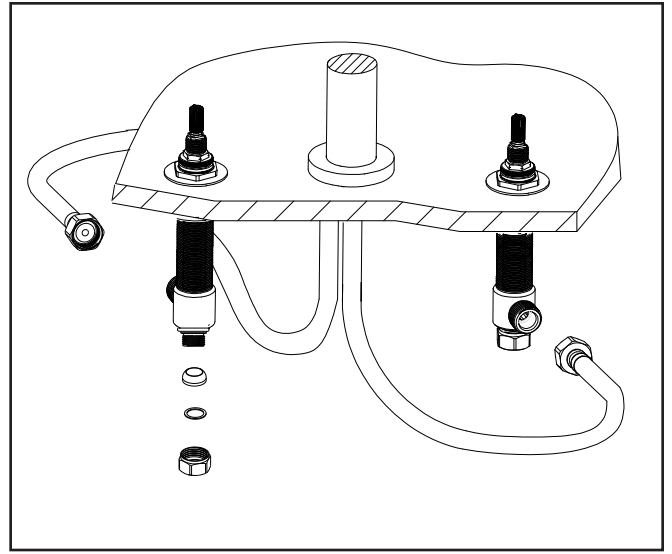

Figure 2
3. Connect hoses to side outlet of each valve body. Hand-tighten and secure each connection with a wrench ¼ turn. See Fig. 2
4. Attach hot/cold water supply hoses (not included) to appropriate valve, utilizing cone washers, friction rings and nuts supplied. See Fig. 2